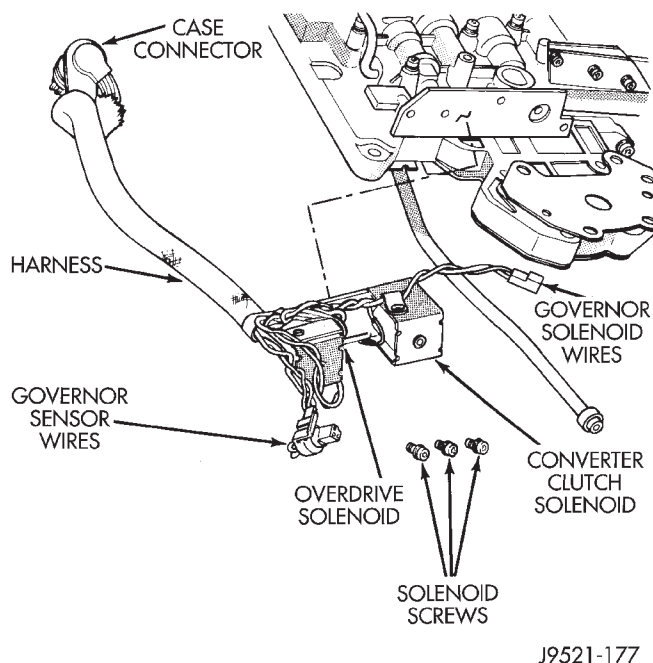

Fig. 41 Solenoid Assembly
(11) Remove solenoid and harness assembly from valve body (Fig. 41).